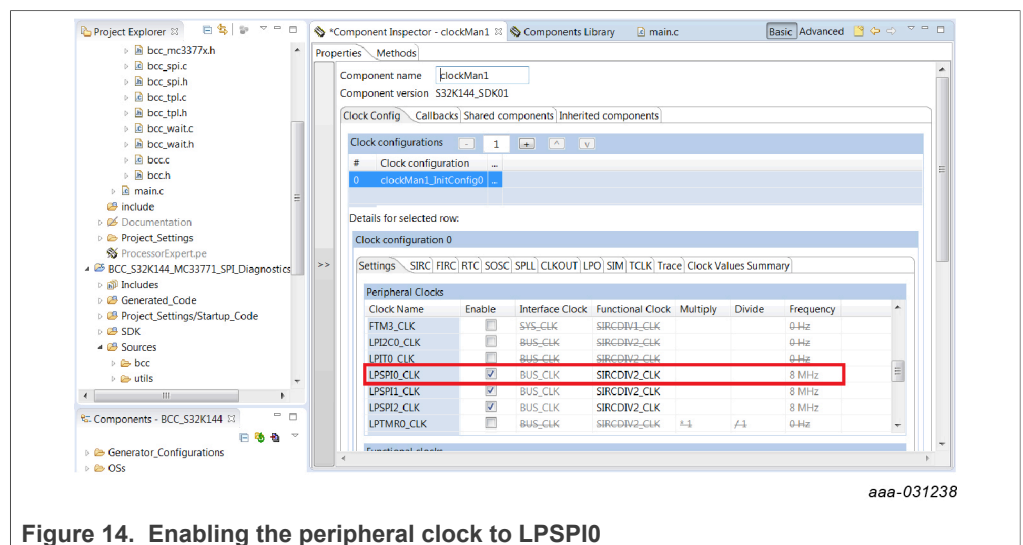

Figure 14. Enabling the peripheral clock to LPSPI0
- In order to get the BCC software driver to run on S32K144, check in the **clock_manager** component settings to see if the peripheral clock to LPSPI and PORT peripherals are enabled. The clock also must provide frequency in an allowed range for these peripherals. See Figure 14 for the location of peripheral clock settings.